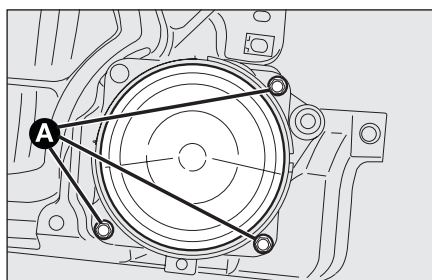

fig. 16
- ☐ remove the lens fig. 16 by loosening the three fastening screws **A**;